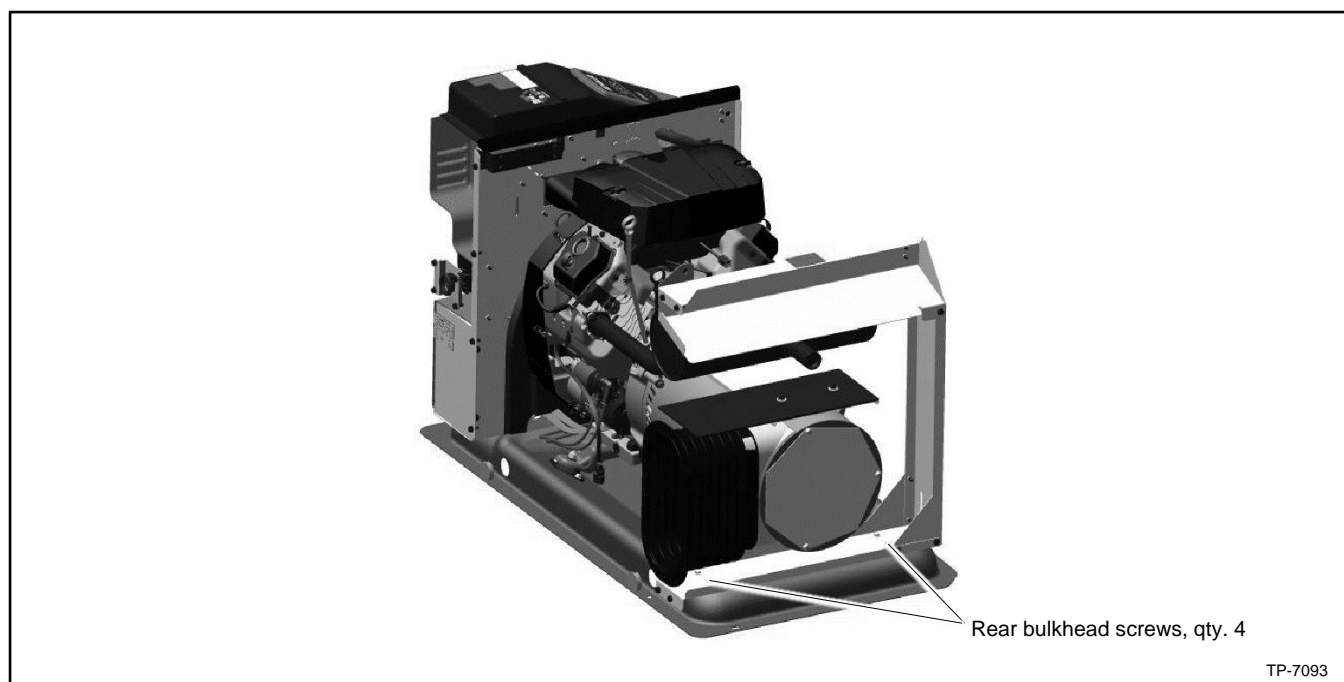

Figure 116 Rear Bulkhead
18. Remove four screws to remove the rear bulkhead. See Figure 116.